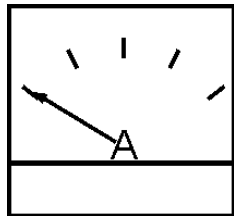

Figure 47. Ammeter (No Load)
13. The ammeter (Figure 47) will indicate zero amps with no load applied. When a load is applied, this meter will indicate the amount of current that the load is drawing from the generator.